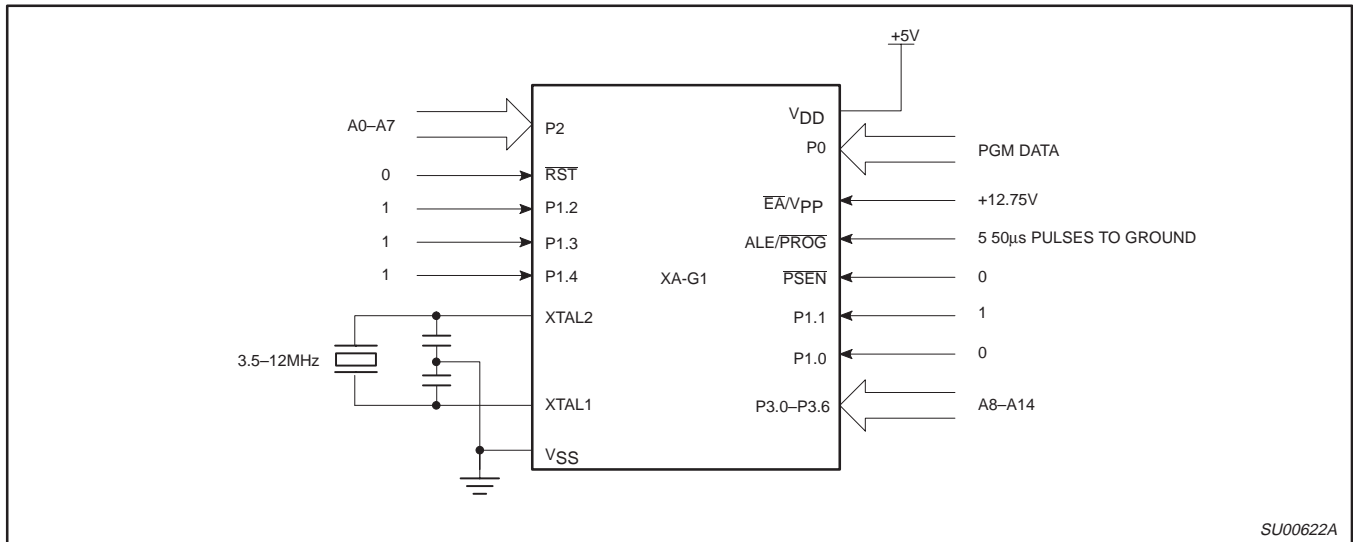
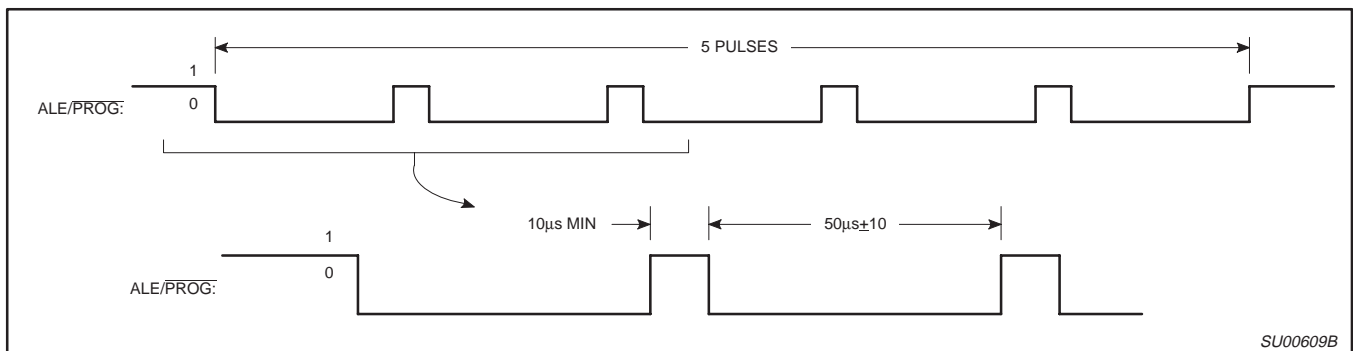
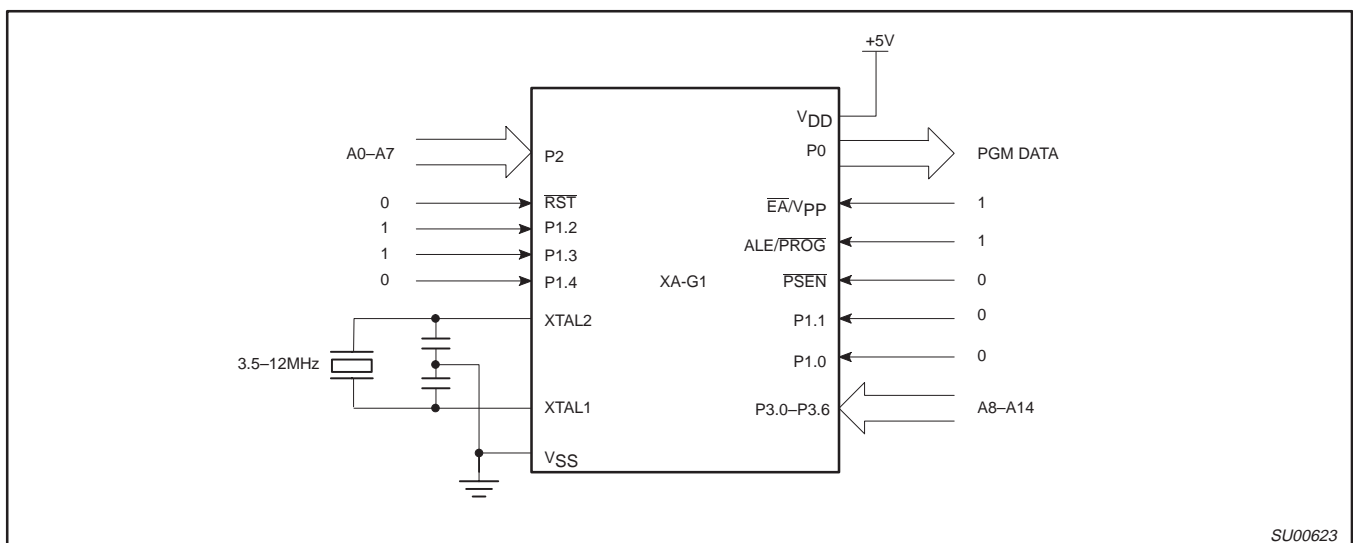

Figure 31. Programming Configuration for XA-G1
Figure 32. PROG Waveform
Figure 33. Program Verification for XA-G1
Table 6 shows the logic levels for reading the signature byte, and for programming the code memory and the security bits. The circuit configuration and waveforms for quick-pulse programming are shown in Figure 31. Figure 33 shows the circuit configuration for normal code memory verification.
The setup for microcontroller quick-pulse programming is shown in Figure 31. Note that the XA-G1 is running with a 3.5 to 12MHz oscillator. The reason the oscillator needs to be running is that the device is executing internal address and program data transfers.
The address of the EPROM location to be programmed is applied to ports 2 and 3, as shown in Figure 31. The code byte to be programmed into that location is applied to port 0. RST, \overline{PSEN} and pins of port 1 specified in Table 6 are held at the 'Program Code Data' levels indicated in Table 6. The ALE/PROG is pulsed low 5 times as shown in Figure 32.
If security bits 2 and 3 have not been programmed, the on-chip program memory can be read out for program verification. The address of the program memory locations to be read is applied to ports 2 and 3 as shown in Figure 33. The other pins are held at the 'Verify Code Data' levels indicated in Table 6. The contents of the address location will be emitted on port 0.
- * FOR PROGRAMMING CONDITIONS SEE FIGURE 32.
- FOR VERIFICATION CONDITIONS SEE FIGURE 33.